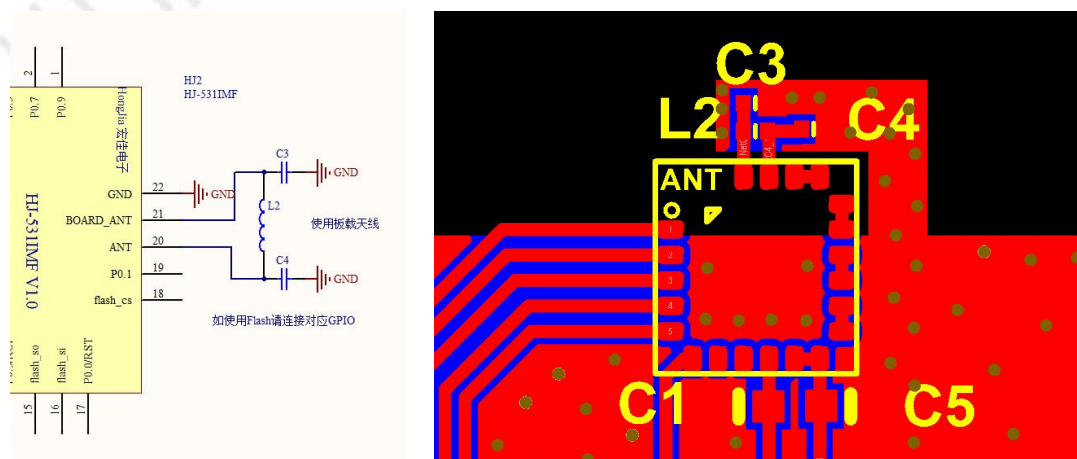

Figure 3.2
② If there is sufficient space, an additional PI can be used for re-adjustment (connecting PIN20 through a π -type filter circuit to PIN21). The transmission distance will be better. The wiring method is shown in Figure 3.2.